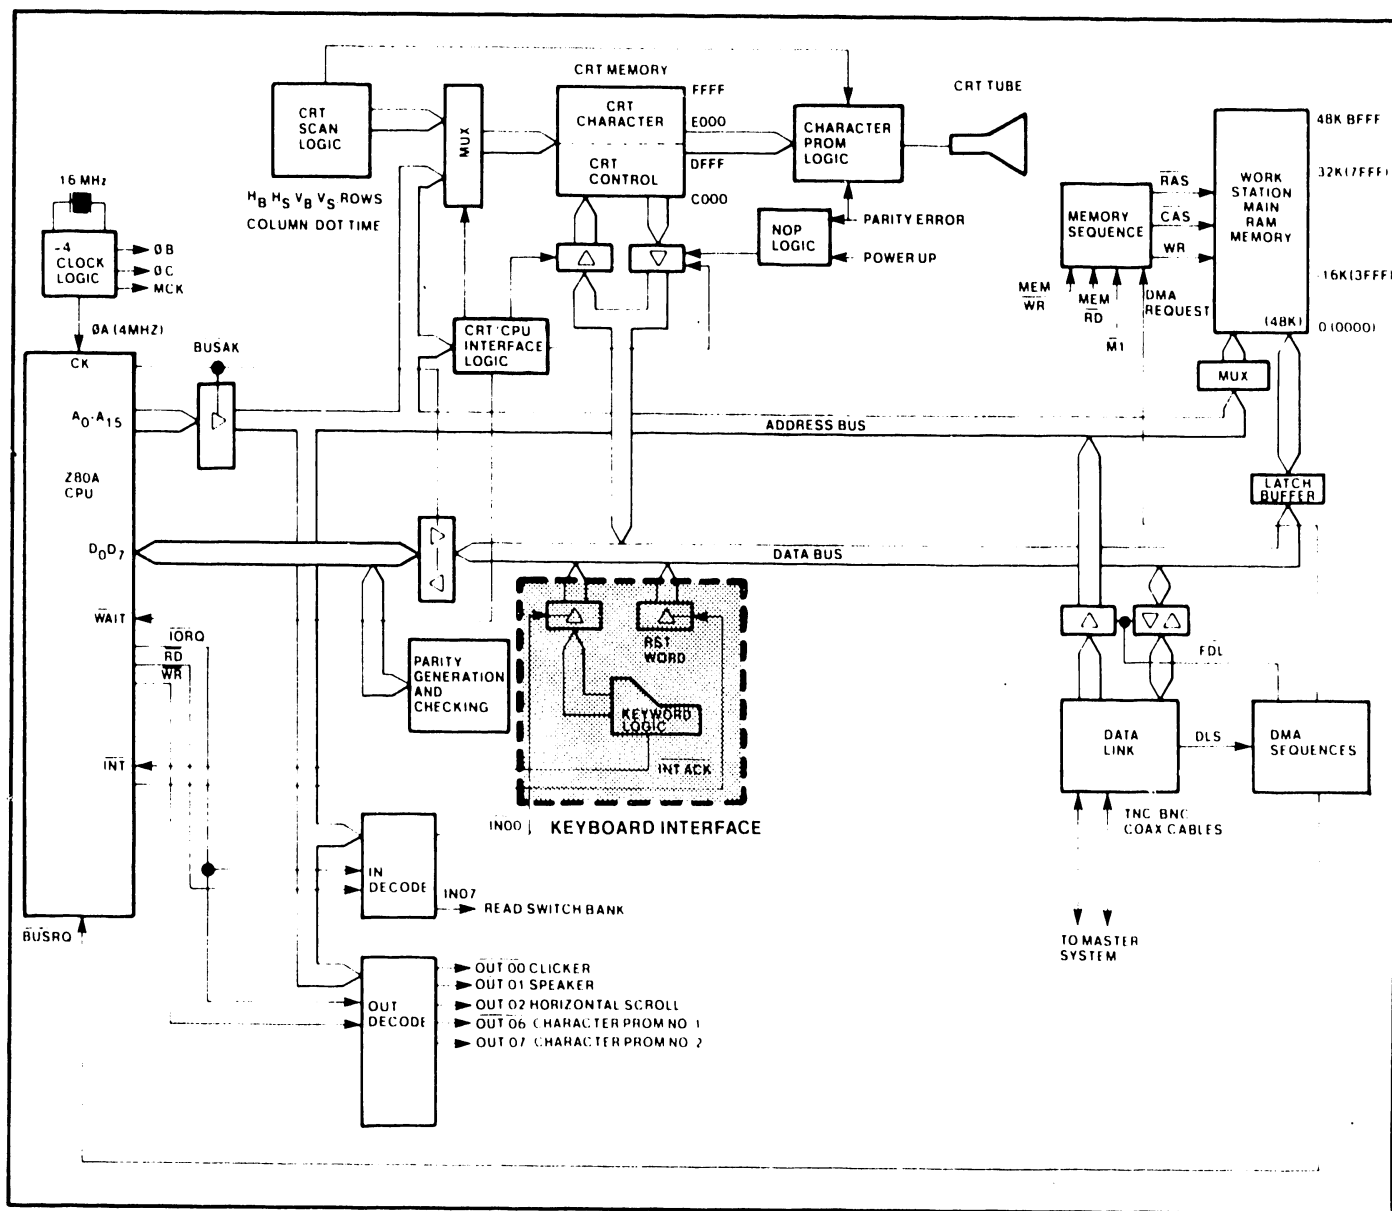

Figure 2-4. Keyboard Interface
2.3.1.3 Character Generation (Figure 2-4)
2.3.1.6 Keyboard Interface (Figure 2-4)